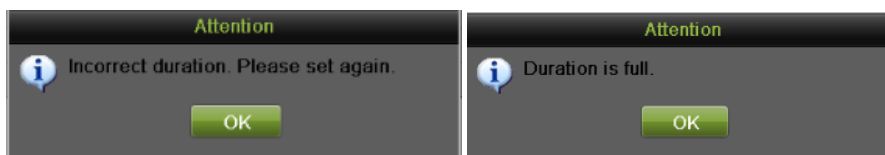

Figure 41 Schedule Configuration Error Messages
- 5) If there are scheduling errors detected, error messages such as those shown in Figure 41 will appear.